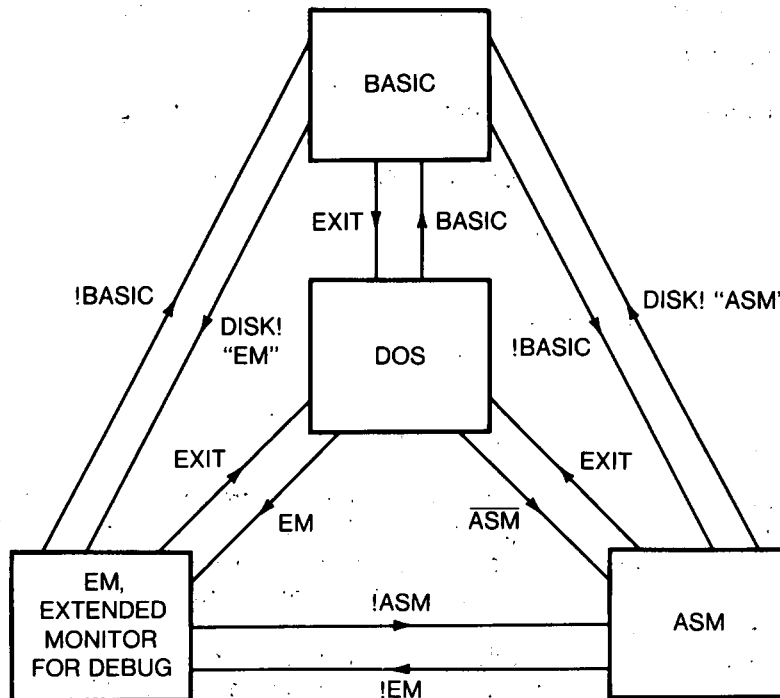

Fig. 10 Operating System Flow Chart
The central part of the OSI disk operating system (DOS on Figure 10) supervises the running of all programs. It can call for three subsidiary (or utility) programs: BASIC, ASSEMBLER language (ASM), and the EXTENDED MONITOR (EM).
The inter-relation of these programs is shown in Figure 10. The recommended way to go from one program to another is shown beside the direction arrows. These are the commands to be typed.